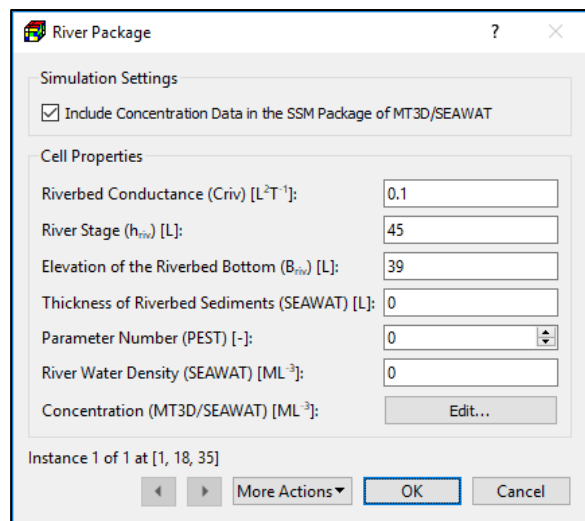

Figure 62. The River Package dialog box for specifying cell properties
2. **Cell-by-cell input method:** Figure 62 shows the dialog box for specifying one or more reaches to a model cell. For each reach, the following properties need to be assigned.